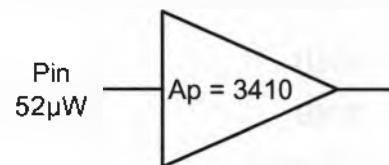

Figure 7
22. What is the output power of the amplifier in Figure 7?